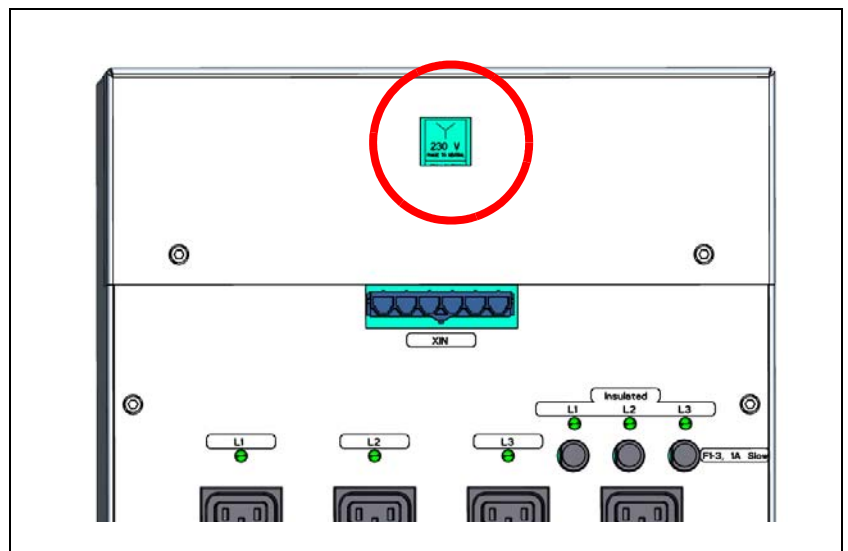

Figure 2-22. Inspection opening.
13. Double check voltage configuration by reading in the inspection opening in the cover. See Figure 2-22